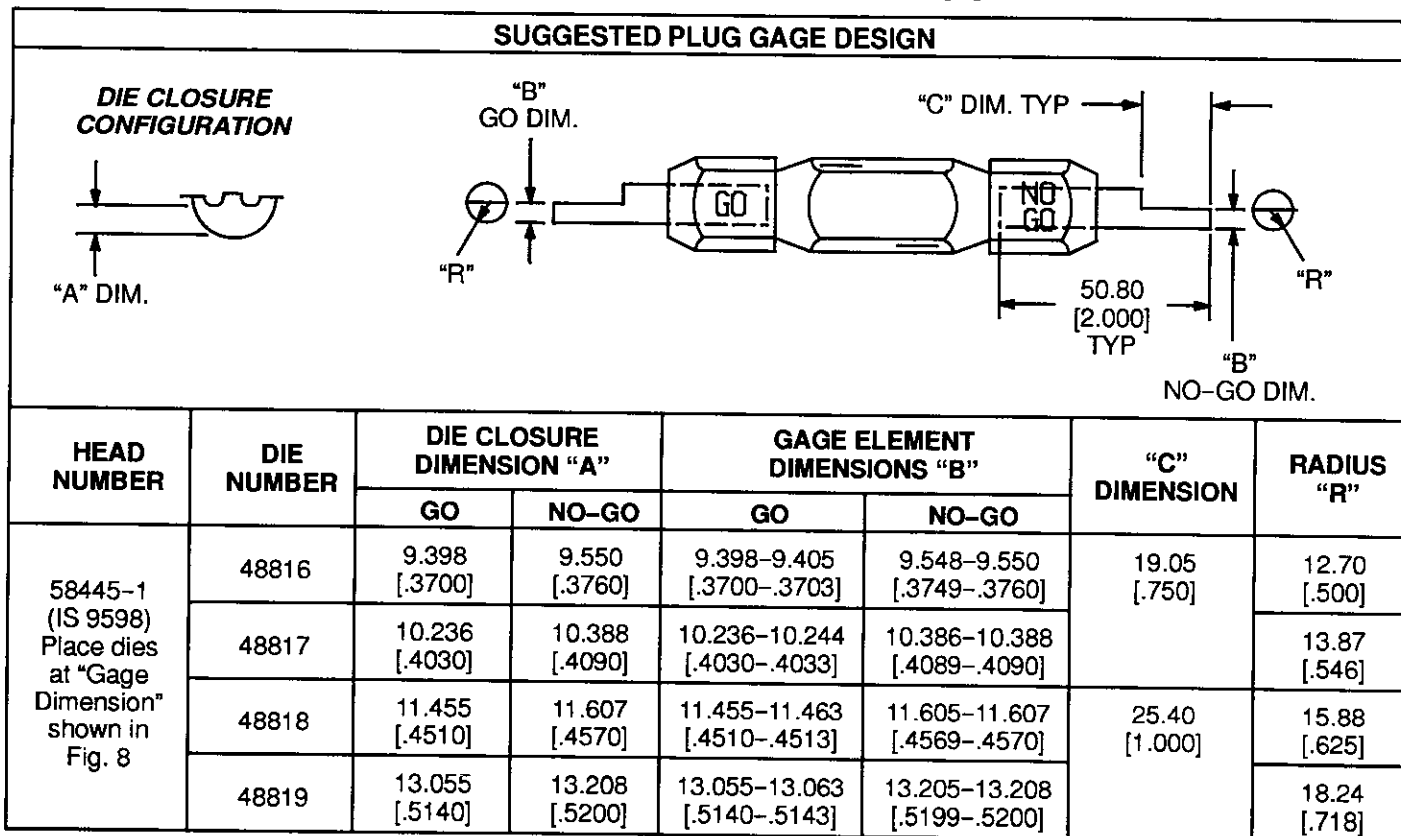

Fig. 7
B. Gaging the Crimping Chamber (Figures 7 and 8)
This inspection requires the use of a plug gage conforming to the dimensions in Figure 7. AMP does not manufacture or market these gages.
1. Assemble and position dies to meet the "gage dimension" indicated in Figures 7 and 8.